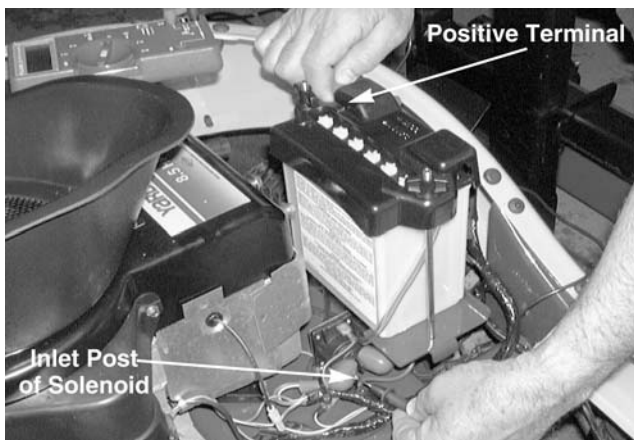

Figure 8-73.
–There will be **CONTINUITY**. See Figure 8-73.